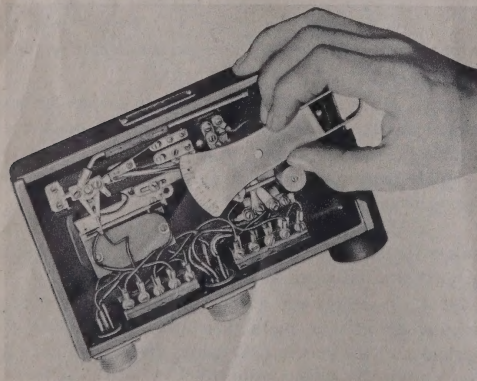

Figure 316 — Checking Rocker Arm Centering Spring Tension
5. Measure the tension of the centering springs with a gram gage. (See figure 316.) This tension should be 7 to 9 grams. Adjust this tension to the correct value by slightly loosening the left-hand screw which secures each centering spring bracket assembly to the mounting block and rotating the eccentric adjusting screw. When the proper tension is obtained, retighten these mounting screws and again check to make sure that this adjustment is correct.